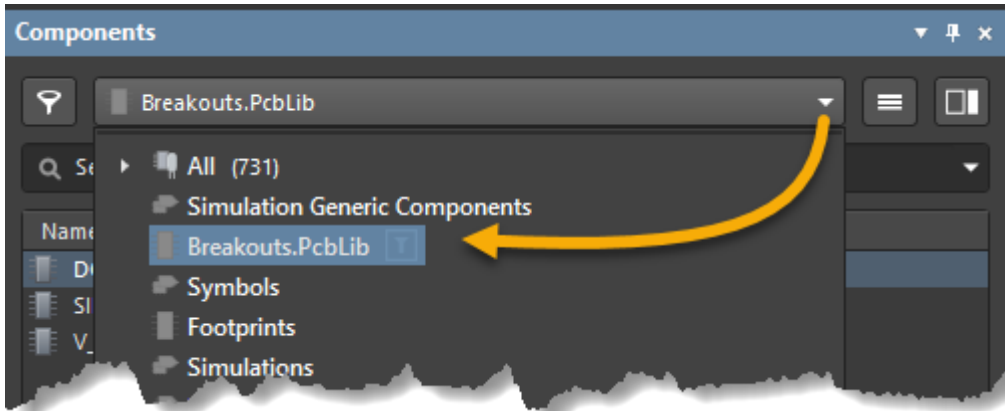

Figure 21. Breakout display in the Components panel
- 40. From the library drop-down menu, select *Breakouts.PcbLib* as shown in Figure 21.